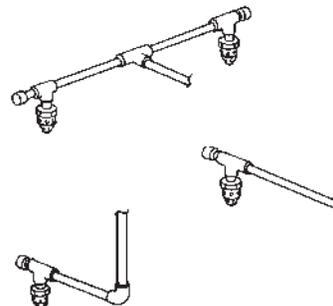

FIGURE 6-10
- All dead end pipe lines to be provided with a 1/2 in. capped nipple, 2 in. long. See Figure 6-10.